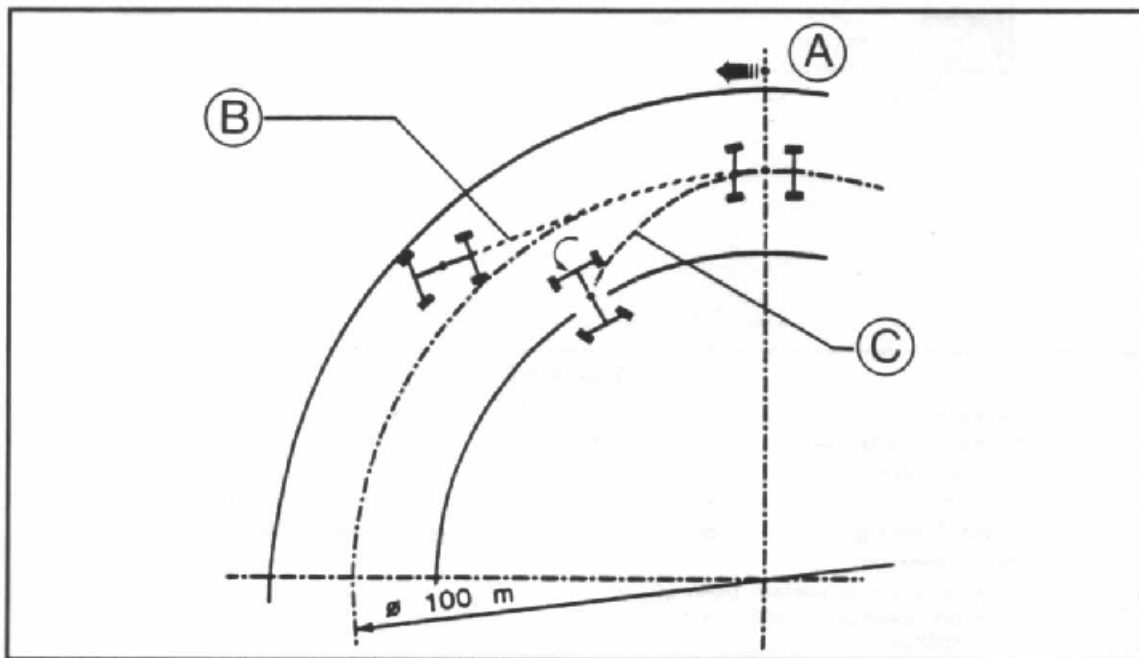

Figure 4-3
Figure 4-3 shows braking with (B) and without (C) rear axle disengagement and with differing road surfaces.